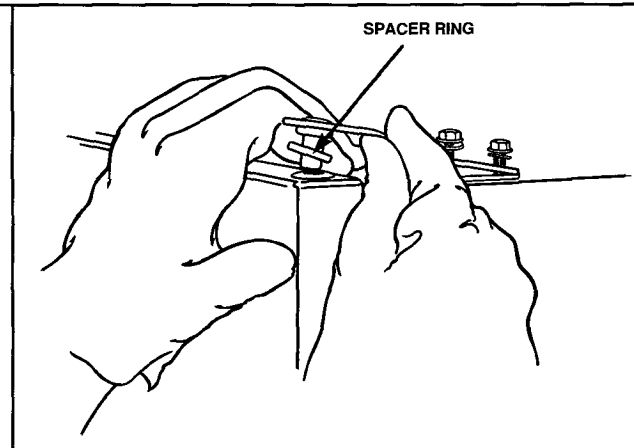

Figure 12
- c. Save plastic top hinge plate spacer(s) and all unattached plastic hinge spacer ring(s) from underneath top hinge plate pin and use in Step 14. See Figure 12.